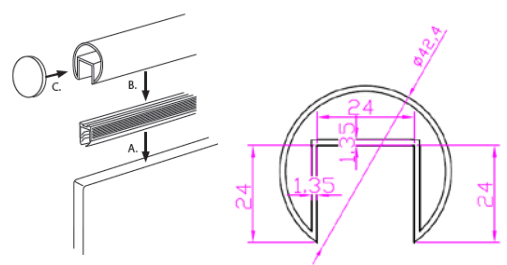

FIGURE 3 TOP RAIL CONNECTION
Glass Connectors are available in 180-degree clamps, adjustable clamps (with a range of motion from 42 degrees – 180 degrees) to connect glass panels to glass panels, and end clamps to connect glass to structural items. Glass connectors are manufactured using ASTM A1016 316 Stainless Steel and are available in polished chrome and PVDF matte black finishes. See Figure 3. The structural capacity of the glass connectors is outside the scope of this report.
4.1.2 Top Rails: The top rail shown in Figure 3 must be installed for compliance with this report. The top rail is installed to the glass panel using provided rubber insert and applicable connectors at joints or to ends. See Figure 3. See Table 1 for the maximum rail span. The ends of the top rail